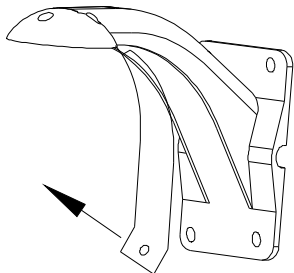

Figure 9
7. Take out the cover of the wall-mounting bracket (see Figure 9).